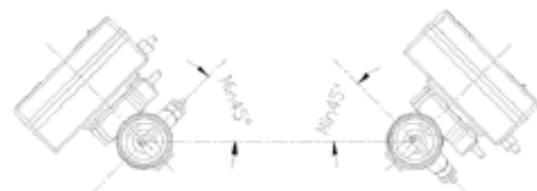
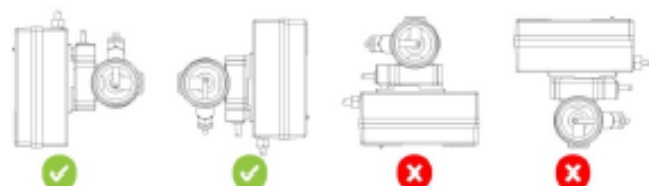

Figure 4: Mounting Rotation 1
Figure 5: Mounting Rotation 2
3. If the meter is installed on the horizontal pipe, it must be oriented at least 45° from horizontal (see Figure 4). If the meter's face is horizontal (see Figure 5), then debris accumulation can increase inaccuracies. There is no special requirement when installing on the vertical pipe work.